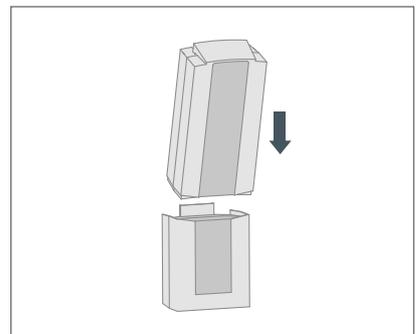

Figure 10. Attaching/removing battery to/from charger
2. Place the lower end of the battery onto the wall mounted battery charger with the upper (lever) side of the battery slightly out from the bracket (see figure 10).